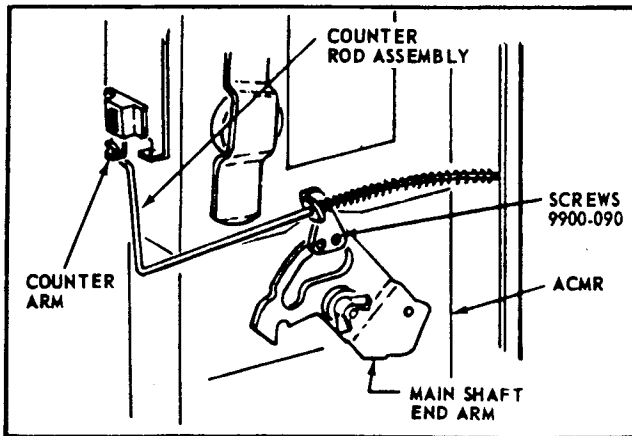

Figure 3.
7. Hook the end of the Counter Rod Assembly into the hole in the Counter Arm. See Figure 3.
8. Attach the End Arm Extension to the Main Shaft End Arm with the two #6-32 x 3/16" Round Head Slotted Screws with Lockwashers, part number 9900-090, included in the Kit. See Figure 3.